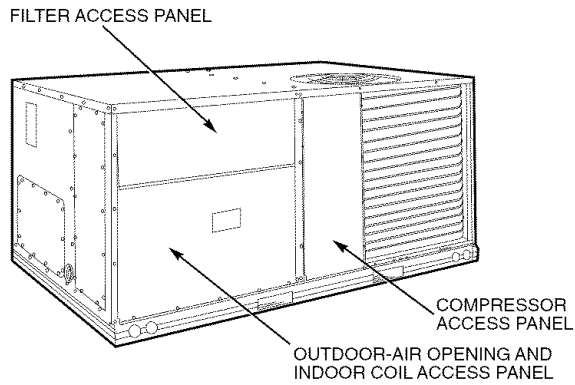

Fig. 27 — Typical Access Panel Locations
1. To remove the existing unit filter access panel, raise the panel and swing the bottom outward. The panel is now disengaged from the track and can be removed. See Fig. 27.